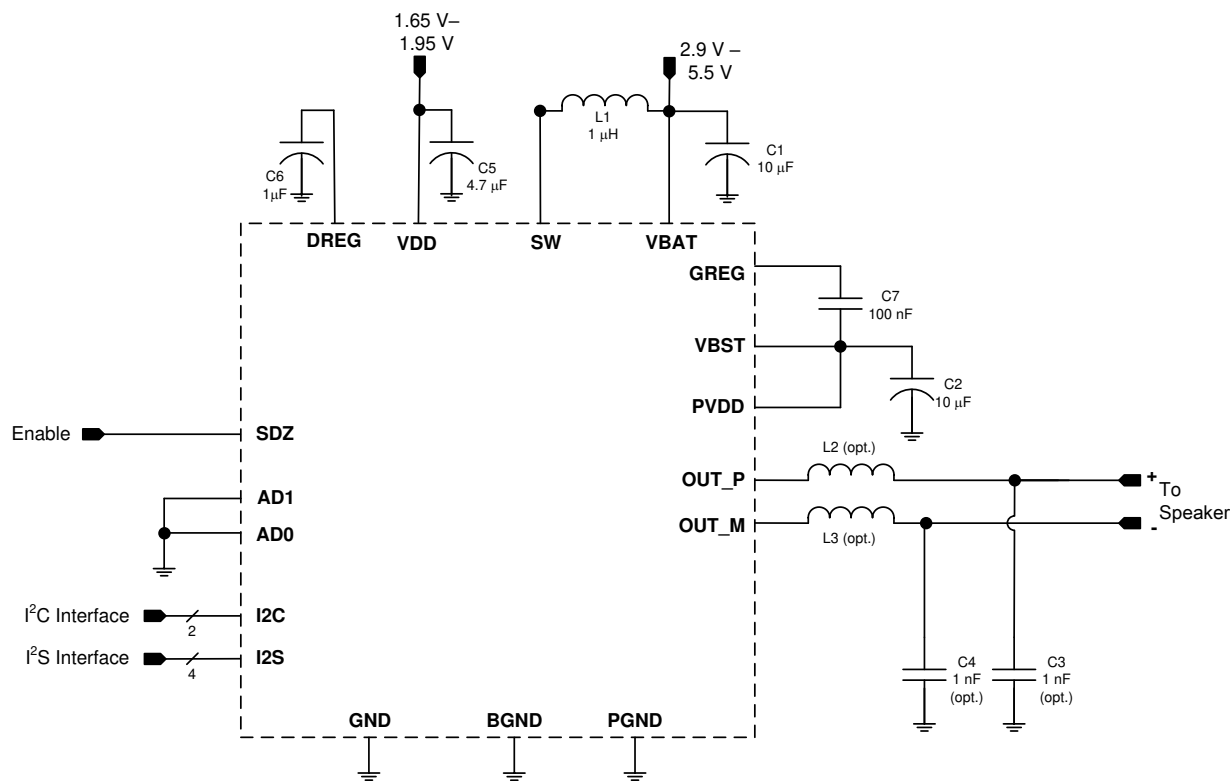

Figure 50. Typical Application - Digital Audio Input
The boost converter requires three passive devices that are labeled L1, C1 and C2 in Figure 50 and whose specifications are provided in Table 272. These specifications are based on the design of the TAS2110 and are necessary to meet the performance targets of the device. In particular, L1 should not be allowed to enter in the current saturation region. The saturation current for L1 should be $> I_{LIM}$ to deliver Class-D peak power.
The system designer may want to include passive devices on the Class-D output. These passive devices that are labeled L2, L3, C3 and C4 in Figure 50 and their recommended specifications are provided in Table 272. If C3 and C4 are used, L2 and L3 must also be installed, and C3 and C4 must be placed after L2 and L3 respectively to maintain the stability of the output stage.
The boost supply (VBAT) and associated passives need to be able to support the current requirements of the device. By default, the peak current limit of the boost is set to 4 A. Refer to Table 86 for information on changing the current limit. A minimum of a 10 μ F capacitor is recommended on the boost supply to quickly support changes in required current. Refer to Figure 50 for the schematic.
- Use supply decoupling capacitors as shown in Figure 50 and described in Power Supplies.